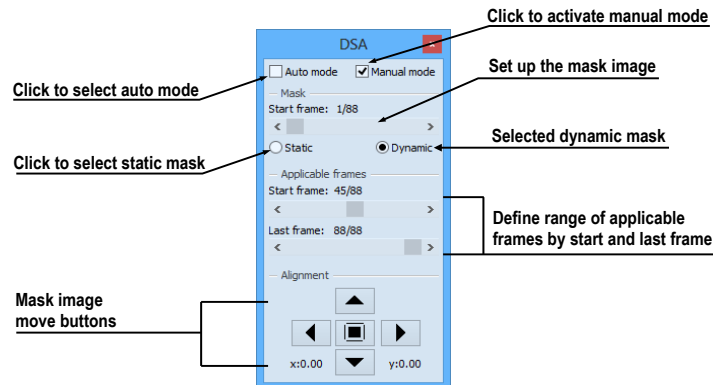

Figure 170 – DSA tool
2. Select the **Manual mode** in the **DSA** tool (see Figure 170).